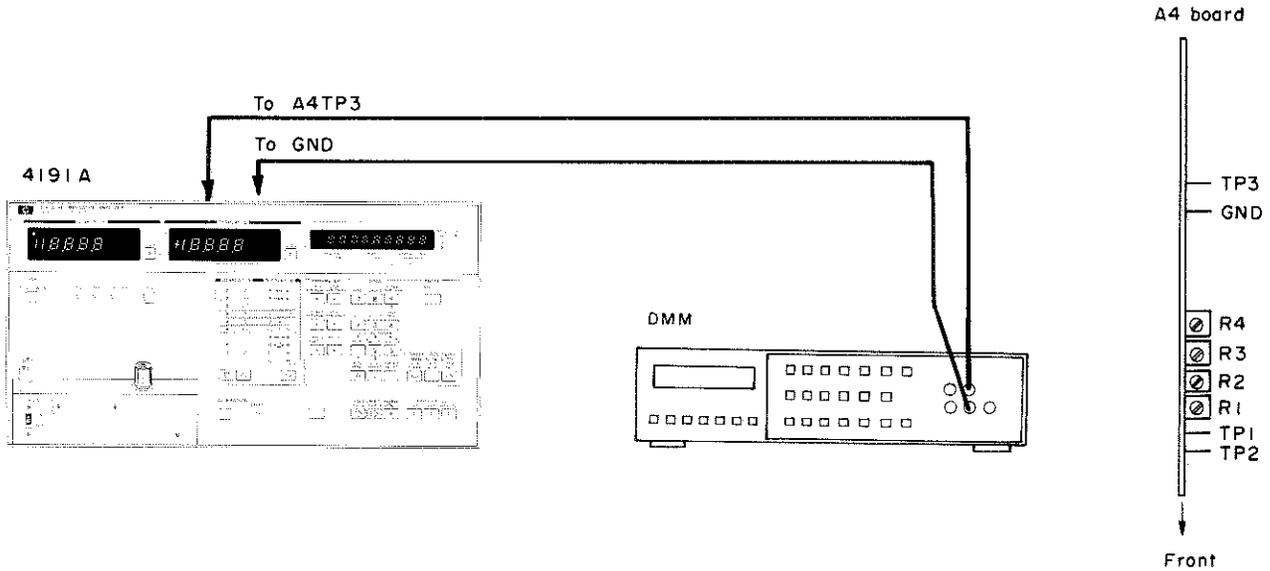

Figure 5-3. Voltage Tunable Filter Tuning Voltage Adjustment Setup.
1. Connect the DC voltmeter input leads to TP3 and GND pin on the A4 board as shown in Figure 5-3.